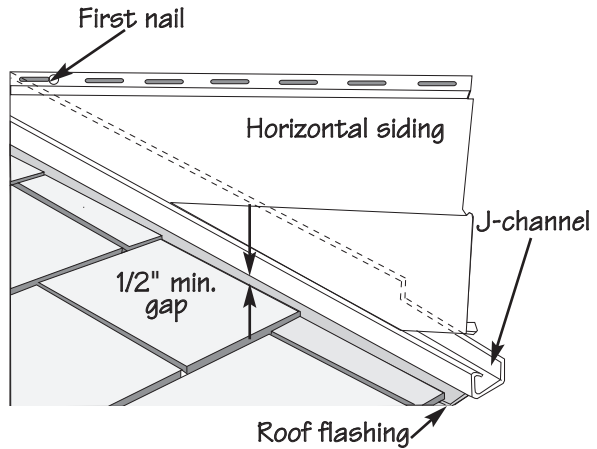

Figure 32.
- Fasten the nail, screw, or staple that is closest to the roof line at the far end of the nail hem slot, to ensure that siding will expand away from the J-channel (Fig. 32).